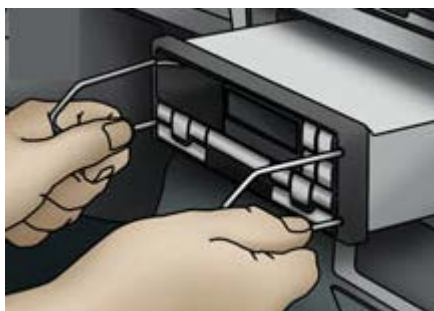

Fig.6 Typical radio removal using U-shaped tools.
6. Insert two (2) U-shaped radio removing tools in the four (4) holes located on both sides of the radio front panel and pull it out (Fig.5 and Fig.6).